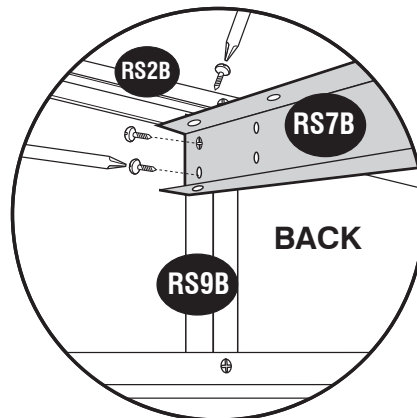

fig.4
23. Attach the roof structures (RS4B) to (RS3B) and (RS5B), (RS6B) & (RS7B) assembly with (S1) screws. See (fig.1) (fig.2) (fig.3) and (fig.4).